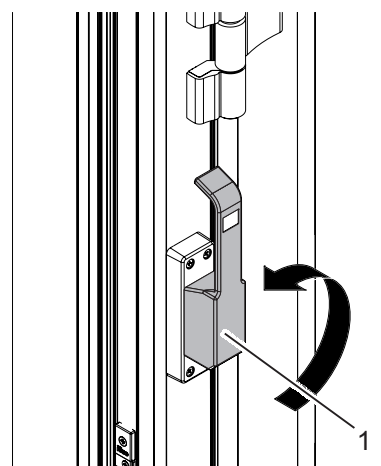

Fig. 23: Adjusting the sliding panel function
1. Slowly move the door lock bar (Fig. 23/1) upward into the sliding mode.